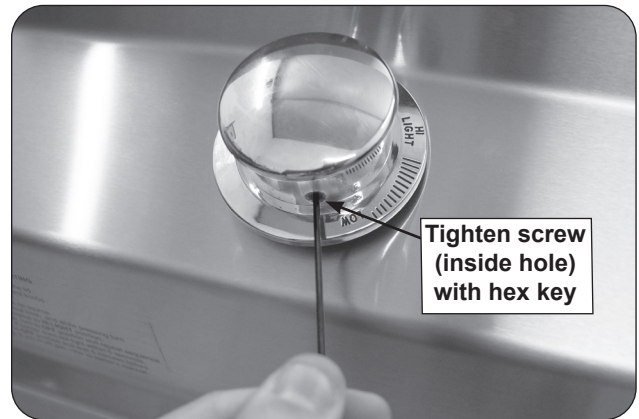

Fig. 26-2 Tighten screw to lock knobs
3. Insert the included .078" (2mm) hex key through the small hole located on the side of the knob and fully tighten the screw (see Fig. 26-2).